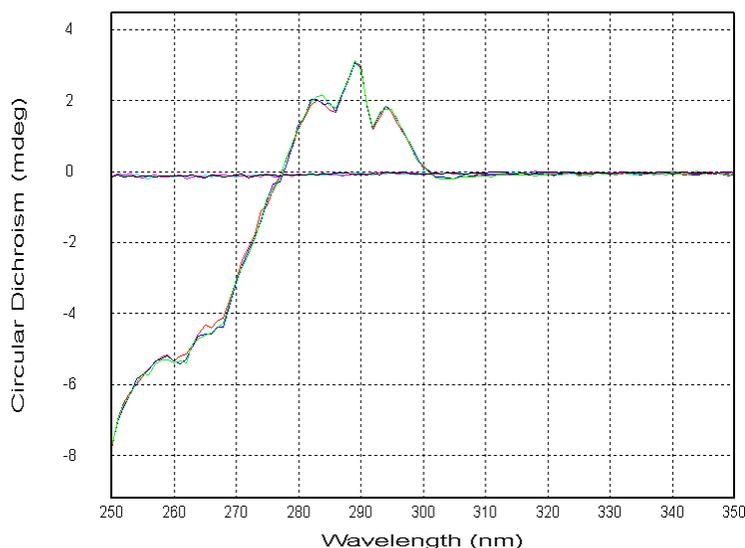

Figure 71: Data of two datastores (buffer and protein) displayed in the Graphical Display
- To add more Databases to a Graphical Display, select multiple Databases from the list in the usual way (using the left mouse button with Ctrl or Shift keys) and drag them onto the Graphical Display (Figure 71).